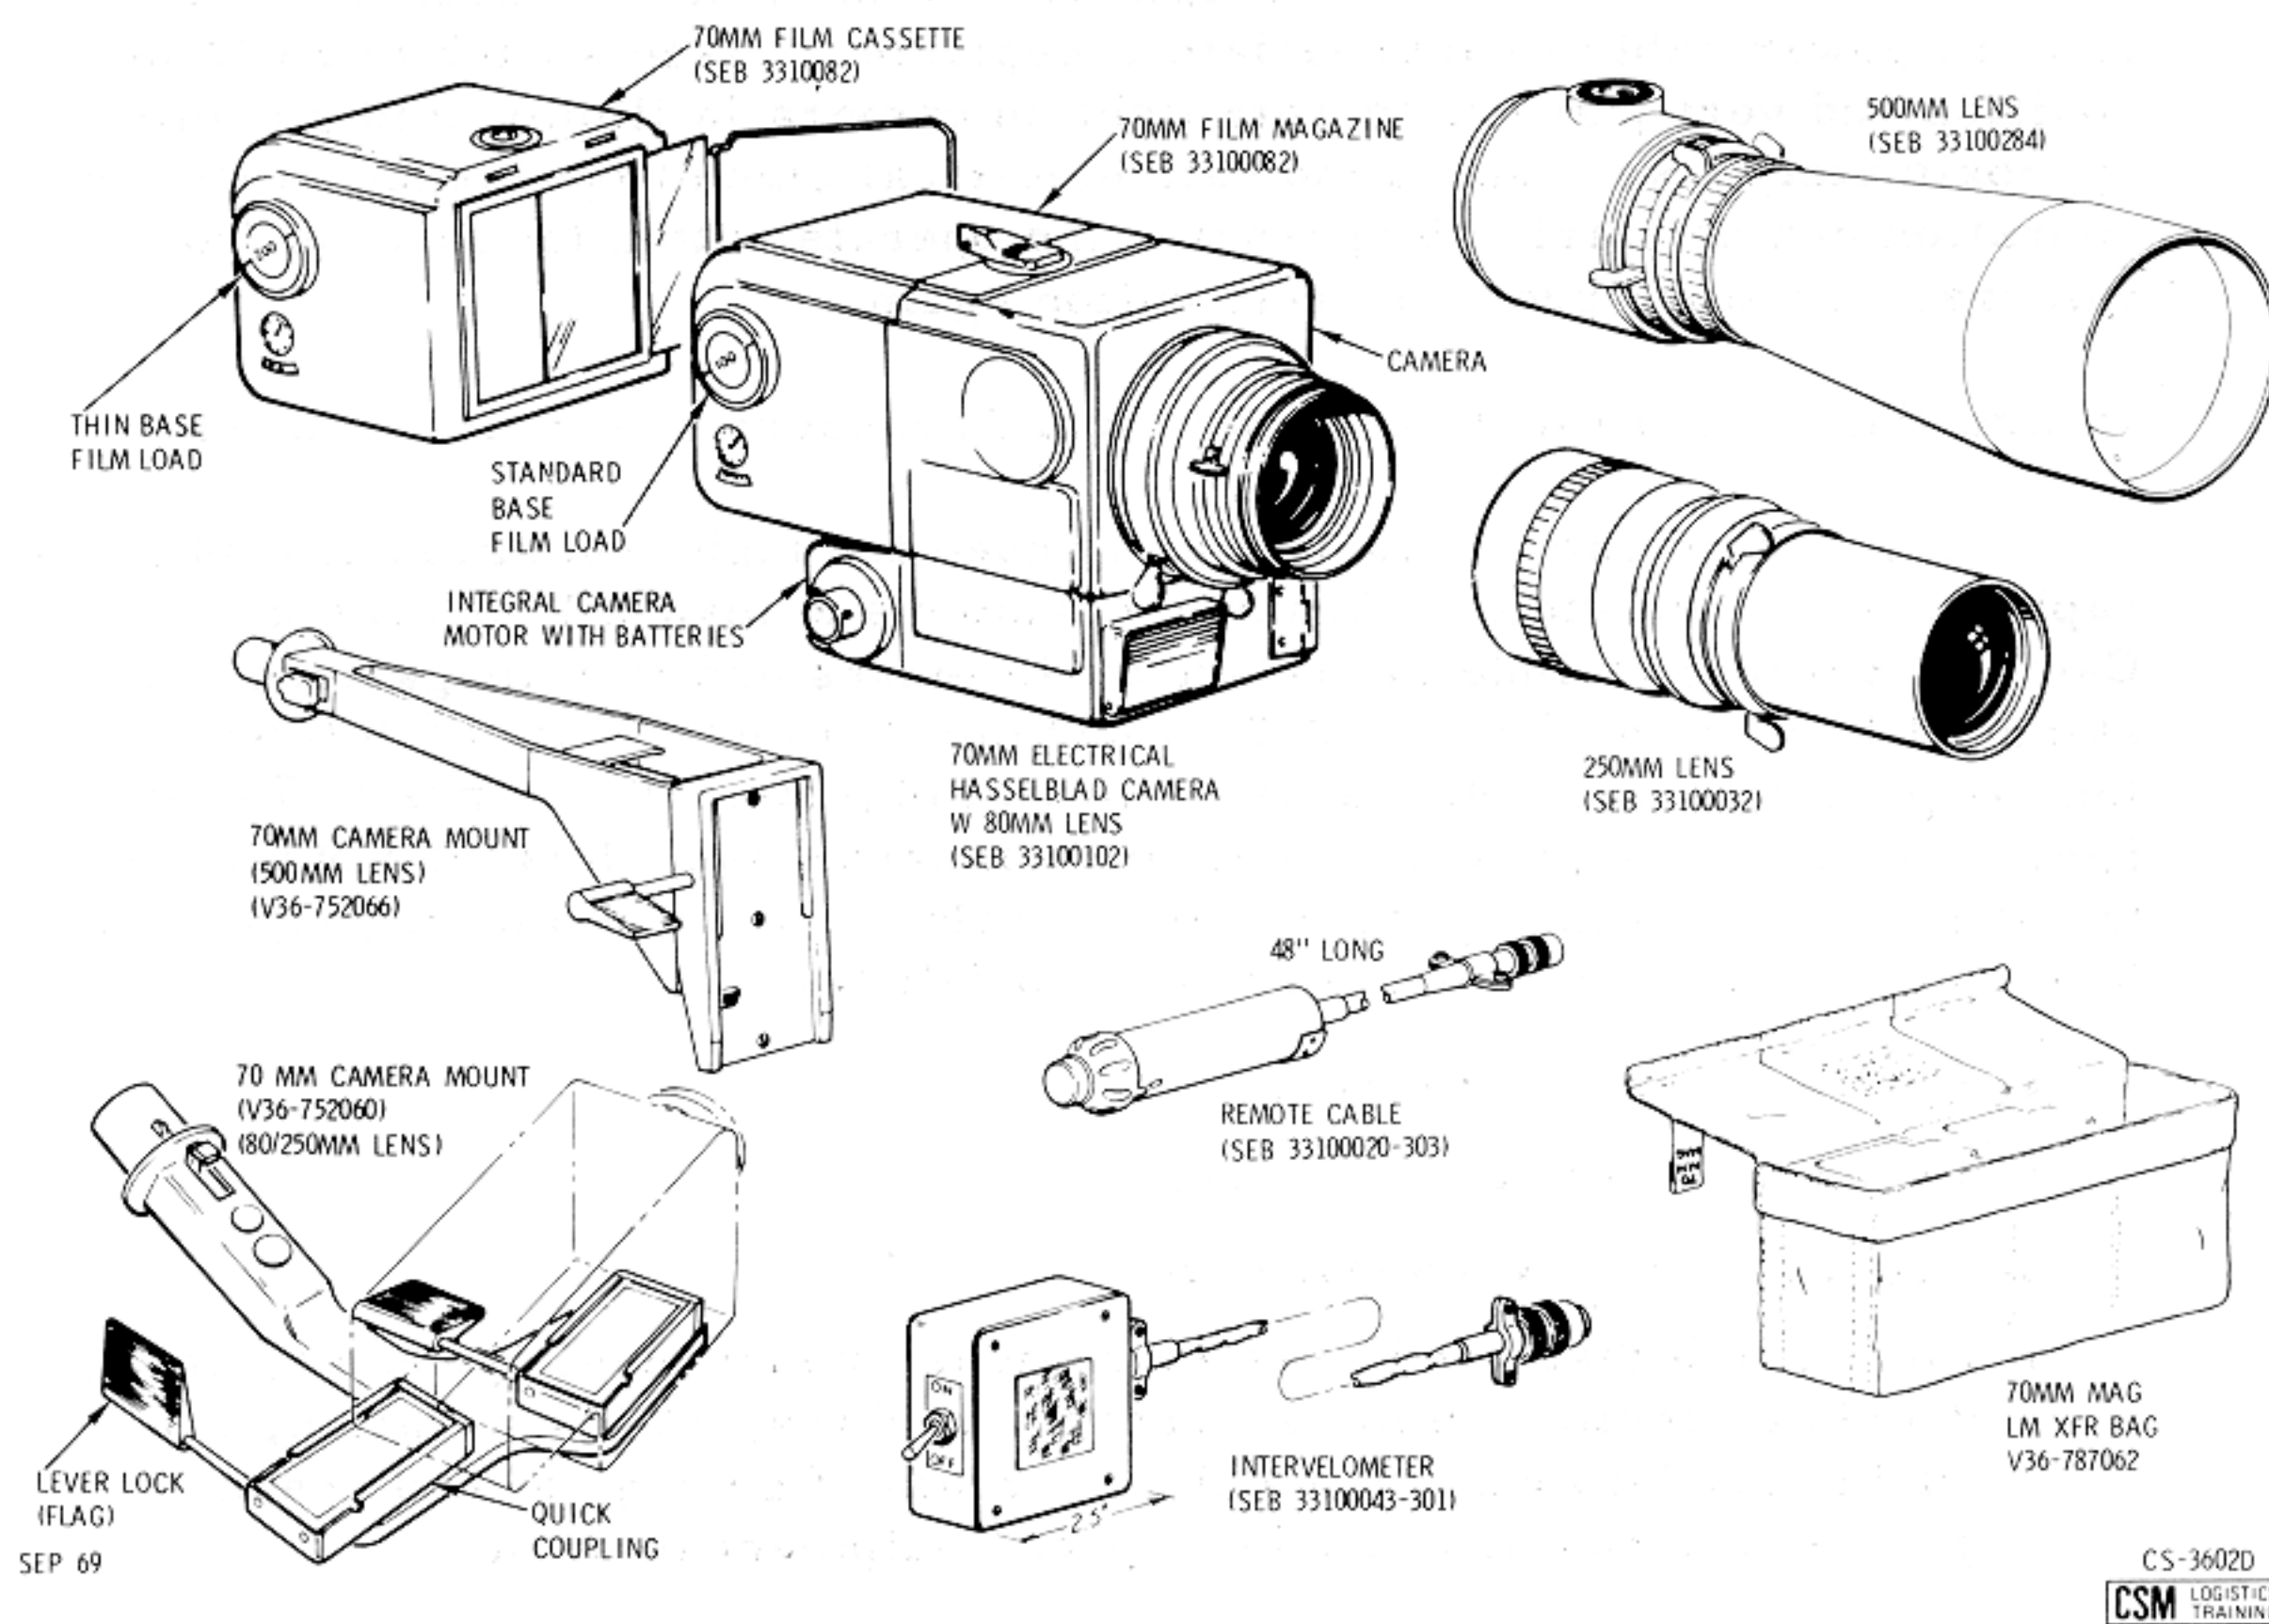

Figure 2.12-34. 70 mm Hasselblad Electric Camera and Accessories
2.12.5.3.2 70 mm Hasselblad Electric Camera and Accessories (Figure 2.12-34).
500 mm f/8 Lens. (Figure 2.12-34) The 500 mm lens is used for telephotography such as lunar landscape, lunar mapping, and targets of opportunity. It produces a 6X magnification over the standard 80 mm lens and its field of view is 7 x 7 degrees. The 500 mm lens focuses from 28 feet to infinity but because of mounting limitations in the crew compartment and lens travel toward the window during focusing, its mounted focusing capability is approximately 100 feet to infinity. The lens has a built in shutter with speeds from 1 second to 1/500th of a second.
Remote Control Cable. (Figure 2.12-34) The function of the remote control cable is to actuate the shutter from the left couch while sighting targets through the COAS in the left rendezvous window. The cable is 48 inches long with a handle and button at one end and a connector at the other.
70 mm Camera Mount for 500 mm Lens. (Figure 2.12-34) The camera mount is L-shaped with a quick coupling on one end and a round stem with a latch at the other. The mount stem will insert in the socket marked EHC MOUNT ATTACH (500 MM LENS) adjacent to the right side of the hatch frame on the girth ring. When installed with the camera, the 500 mm lens centerline will be aligned 10 ± 1 degrees off the X-axis toward the -Z direction.